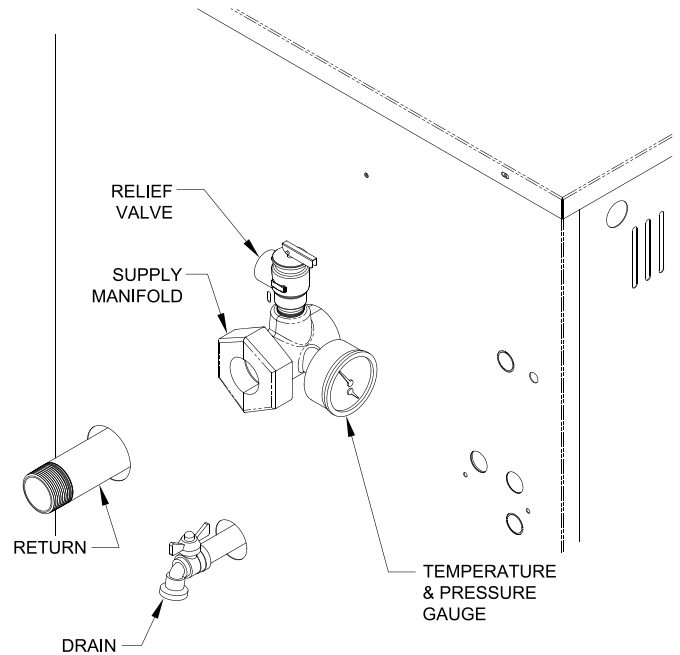

Figure 7-1: Near Boiler Piping
3. Install Safety Relief Valve. See Figure 7-1. Safety Relief Valve must be installed with spindle in vertical position.
4. Connect system supply and return piping to boiler. Refer to Figures 7-1, 7-2, and 7-3. Also consult Residential Hydronic Heating Installation and Design I=B=R Guide. Maintain minimum 1/2 inch clearance from hot water piping to combustible materials.